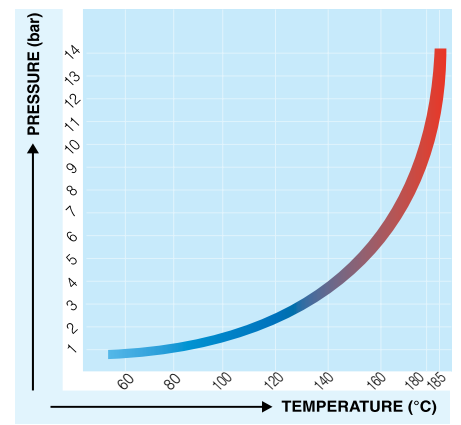

figure 3
3. The vaporization temperature, as we have seen, depends on pressure. The diagram (Fig.3) indicates the vaporization temperatures according to the given pressure.